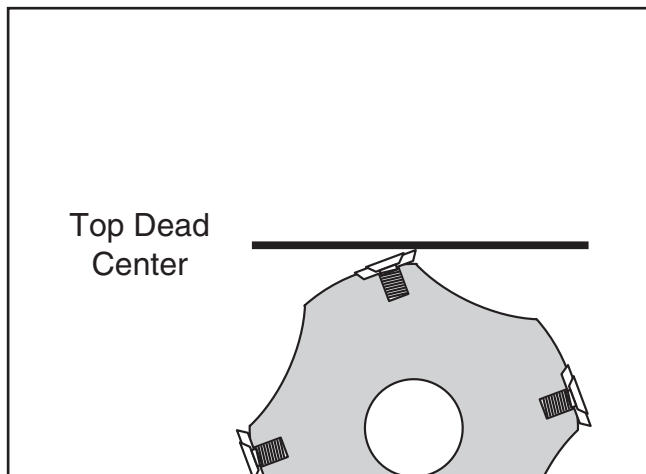

Figure 7. Cutterhead at TDC (Top Dead Center).
13. Use the straightedge to adjust the outfeed table even with the edge of the cutterhead knives at TDC (**Figures 7 & 8**). This is a routine procedure that is covered in more detail in the owner's manual that came with your jointer.